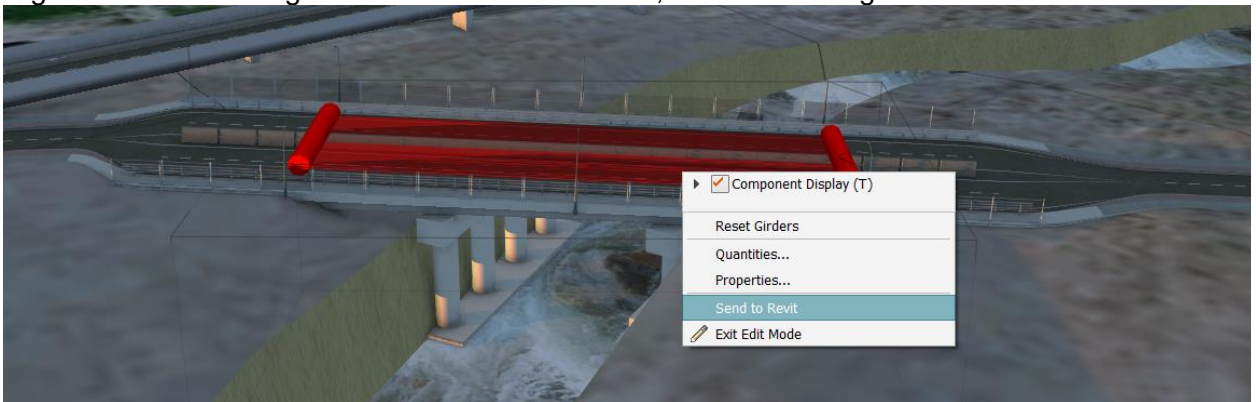

Figure 28
3. Right-click on the bridge and select **Send to Revit**, as shown in Figure 28.